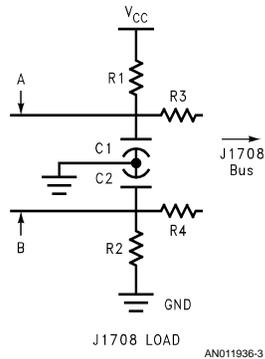
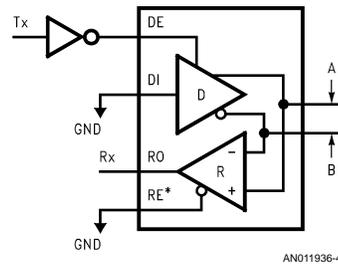

FIGURE 3. Node Load Circuit
FIGURE 4. The DS75176B in a SAE J1708 Application
The recommended implementation for a SAE J1708 load is shown in Figure 3. The recommended implementation for a SAE J1708 system using a standard RS-485 transceiver, such as the DS75176B (see Figure 4), is shown in Figure 7. The circuitry between the bus and the transceiver differs from RS-485 and is intended to provide several features:
The resistor and capacitor values are as follows and are shown in Figure 3:
The drivers used by SAE J1708 are used in a dominant mode application. The driver’s input (DI) is tied LOW and the signal (Tx) to be transmitted is tied to the driver’s enable. The enable (DE) is active HIGH for the DS75176B while the enable (DE\*) for the DS36277 is active LOW. First, this information is very important because this tells us that the driver is only capable of driving LOW. Therefore, a logic level LOW is encoded as “dominant”. When the driver is disabled, the bus is pulled high by external bias resistors R1 and R2 (as shown in Figure 3). Thus, a logic level HIGH is encoded as “recessive”. Second, if the driver’s enable is active LOW, then you will transmit positive logic. But, if the driver’s enable is active HIGH you will transmit negative logic. SAE J1708 is only defined for positive logic. Therefore, to implement a SAE J1708 application using DS75176B, which has an active HIGH driver enable, an inverter is needed for the driver enable (see Figure 4 and Figure 6). However, the active LOW driver enable pin on the DS36277 saves the user an externally needed inverter (see Figure 5).
SAE J1708 requires all receivers to listen to every message identification character transmitted to determine if contention exists. Unlike the driver, the receiver's enable (RE\*) is always tied LOW (see Figure 4 and Figure 5). This means the receiver is always in listen mode (see Explanation of Terms).
The external components shown in Figure 3 provide the necessary bias for a logic High "recessive" state. SAE J1708 requires no additional external components other than the J1708 load. This means that no parallel termination can be used at the ends of the SAE J1708 bus. The required loading also provides failsafe protection.